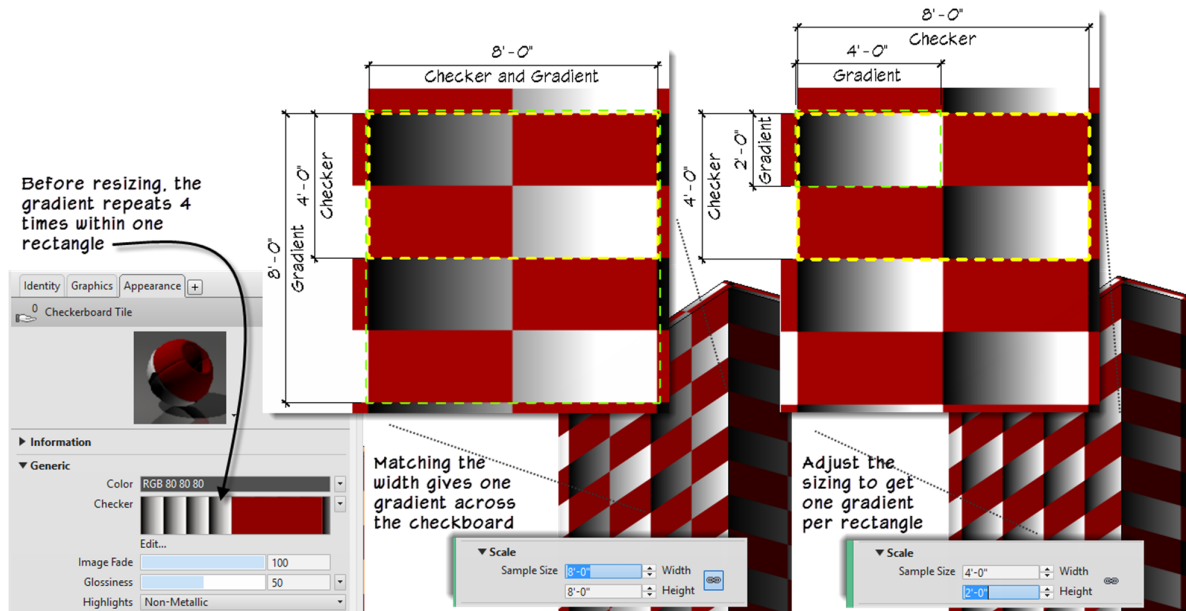

Figure 13—Adjust the sizing to make the tiling match the checkerboard
Take a look at the preview shown back in the "Material Browser" for the Checker bitmap. Notice that the gradient is being repeated four times within the square on the left (see the left side of Figure 13). This is because the size of the gradient bitmap is currently using the default of: 1'-0". Let's change it.
2. Beneath Scale, set the Width to: **8'-0"** (see the left side of Figure 13).
- ⇒ Beneath Scale, click the link icon to unlink, set the Width to: **4'-0"**, set the Height to: **2'-0"** and then click Apply (see the right side of Figure 13).